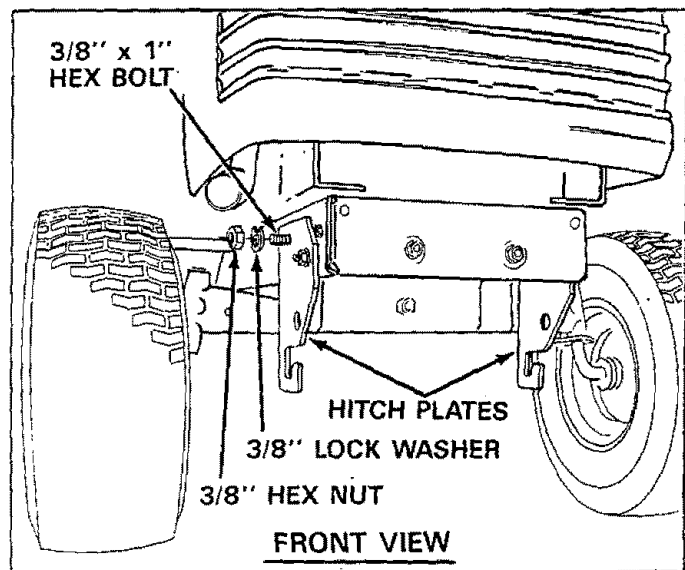

FIGURE 9
1. Assemble hitch plates to outside of tractor frame and secure with two 3/8" x 1" hex bolts, two 3/8" lock washers, and two 3/8" hex nuts on each side. See figure 9.